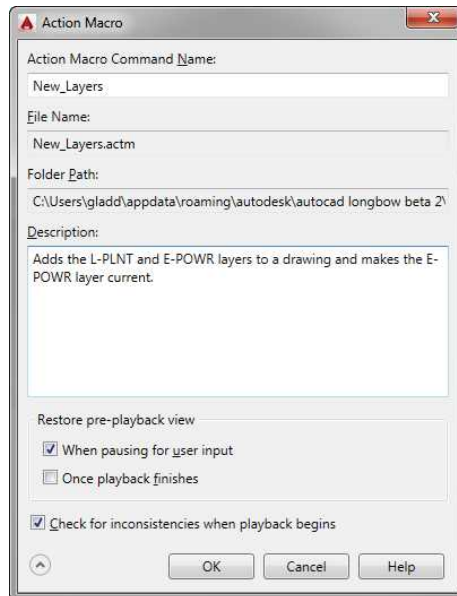

FIGURE 6.53: The Action Macro dialog box
10. In the Action Macro dialog box that opens (see Figure 6.53), enter **New_Layers** in the Action Macro Command Name field, and add a description if you like.